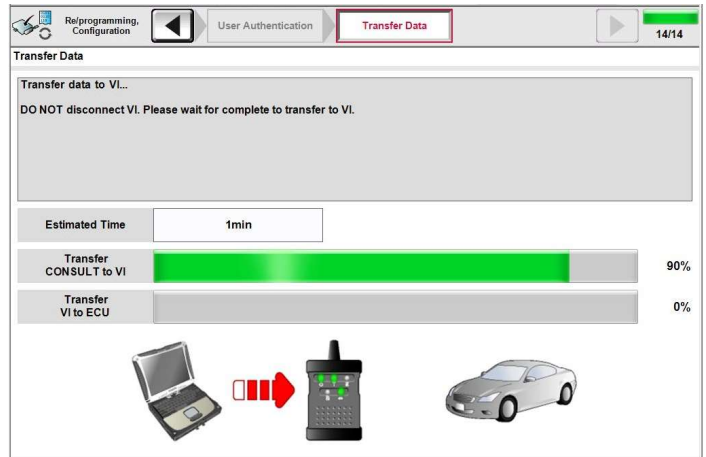

Figure 30
33. Wait for data transfer to complete. (Figure 30)